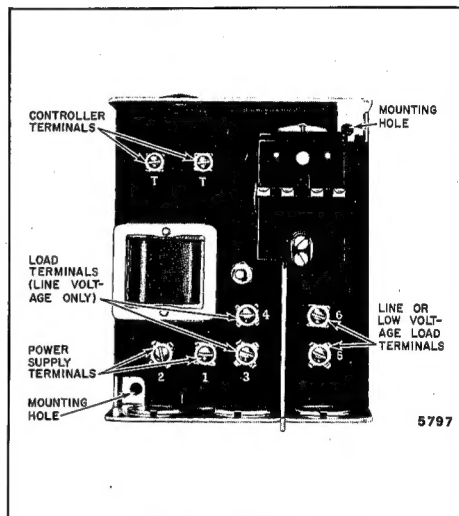

Fig. 2—R845A with cover removed.
1. Position the relay and mark the screw holes. See Fig. 2.